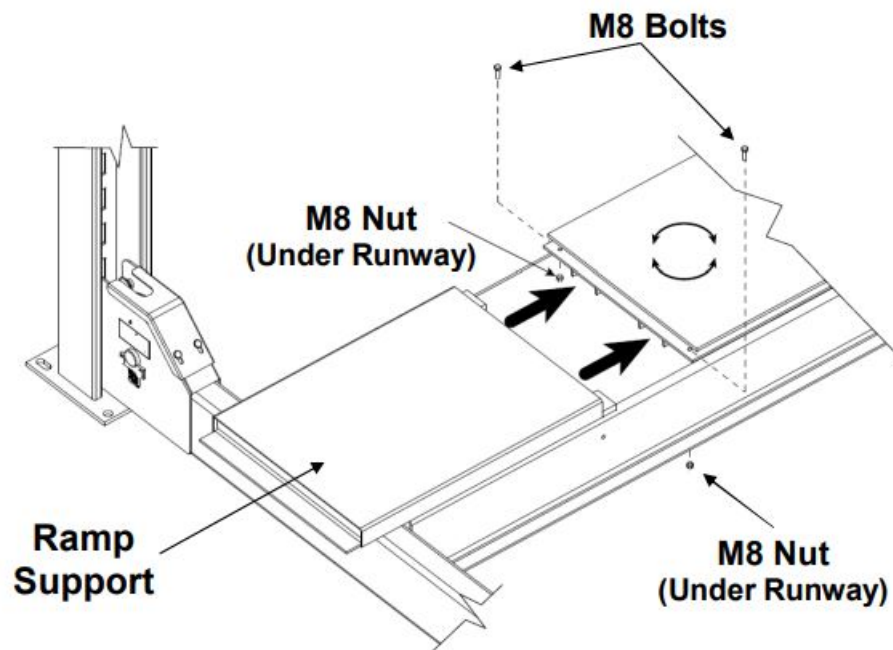

Fig. 7
9. Position and slide the Ramp Support (#7) Tabs under the rear of the Slip Plate. Access the rear Slip Plate holes by angling the rear of the Slip Plate. Align the rear Slip Plate holes to the Tab Holes for the Ramp Support & Runway, secure using M8 Bolts & Nuts – Fig. 7.